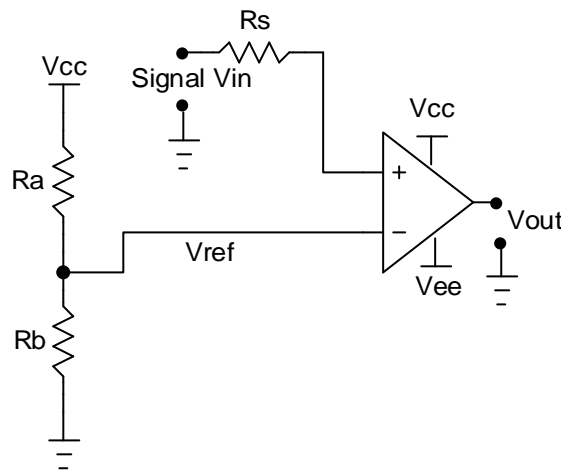

Figure 2. Comparator circuit-2
- Modify the circuit to the configuration in figure 2 and then apply the power and input signal to this new circuit.